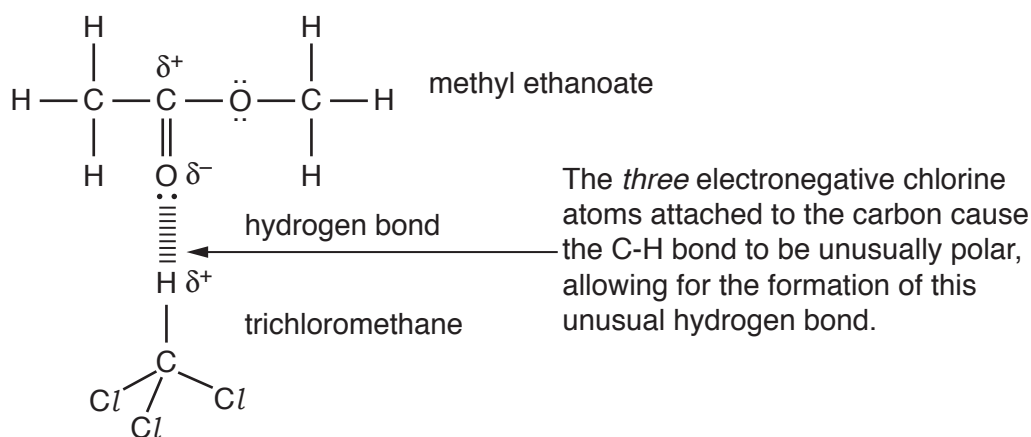

Fig. 3.1
- (c) A student reads that molecules of trichloromethane, CHCl_3 , and methyl ethanoate, $\text{CH}_3\text{COOCH}_3$, do not form hydrogen bonds with themselves, but when mixed, do so with each other. See Fig 3.1 below.